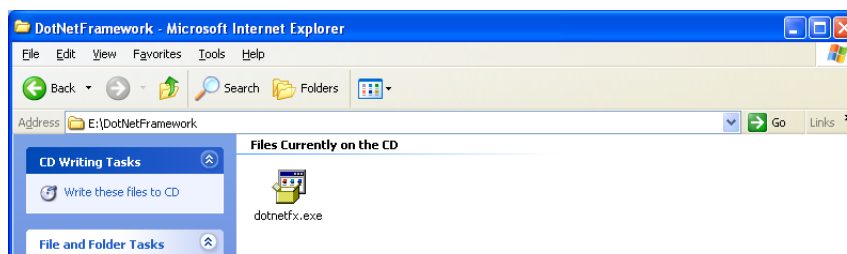

Fig.2-4 .Net Framework installation
- 9 Return to the browser window shown in Fig.2-4 and click the **Back** button.